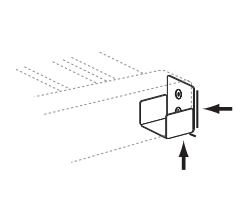

FIG. 1.6
- Mark a level line on the wall at the bottom and side of End Bracket (Fig. 1.6).